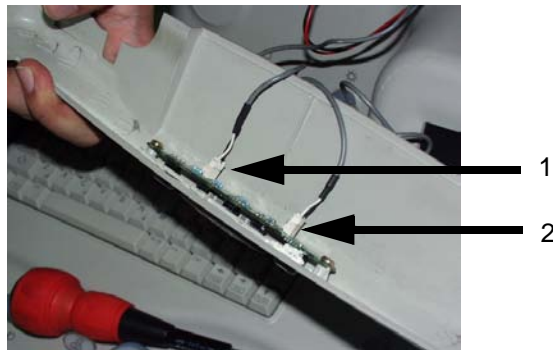

Figure 8-10 Disconnecting 2 cables
- 2.) Disconnect two connectors (1-2). Refer to Figure 8-10.